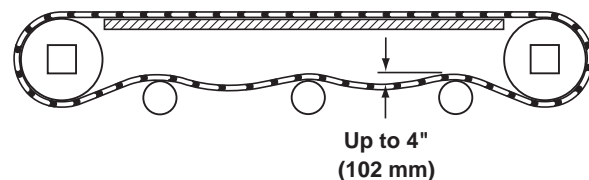

Figure 45
4. Check belt sag by measuring from the top of the return (Figure 45). Belt sag should not exceed 4" (102 mm). Follow steps 7 – 9 in the "Belt Installation" section on page 14 to remove slack from the belt.